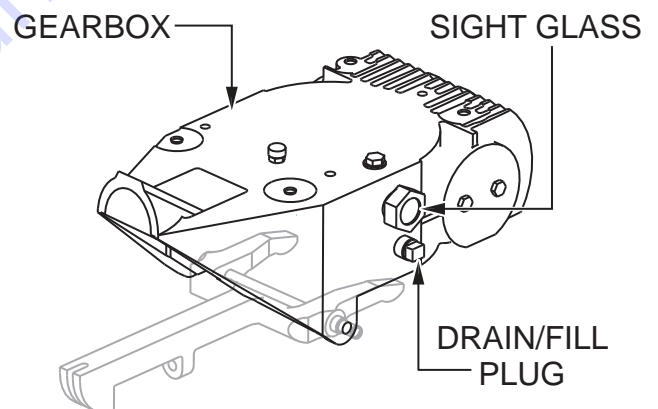

Figure 25. Gearbox Oil
1. Look at the sight glass on the side of the gearbox (Figure 25) to determine if gearbox oil is low. The correct oil level is to the halfway point on the sight glass.
2. If gearbox oil is low, remove the drain/fill plug (Figure 25) and fill with industrial synthetic gear oil until the correct oil level is reached. Refer to Table 1 or Table 2 for the correct oil type. Replace the drain/fill plug when finished.